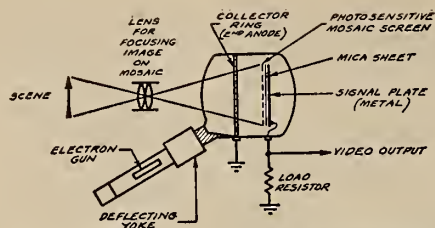

FIG. 9. Elements of the large tube are easily identified. Light images formed on the signal plate are transformed into electrical energy by the scanning beam.
Whereas the picture tube contains a fluorescent screen to convert electric current into light, the camera tube contains a photosensitive screen to convert light into an electric current. The essential parts of a large tube are shown in Fig. 9: these are the mosaic, the signal plate, the collector and the electron gun. The important accessories external to the tube are the lens, the deflecting yoke, and the load resistor.
The important things to notice here are: (1) that we get a video signal across the load resistor (Fig. 9) only when a *change of potential* is produced on the mosaic, and that this is accomplished by the scanning beam; and (2) that the resultant *video signal is proportional to the light coming from the scene being televised*, the signal being of *maximum* amplitude for *black* portions of the scene, *minimum* amplitude for *white* portions.
The collector ring (2nd anode) serves to accelerate the electrons in the scanning beam and also to collect some of the electrons emitted from the mosaic. In Fig. 9 you will notice that this element is grounded; it is, however, 500 to 1000 volts *positive* with respect to the cathode of the electron gun, because the gun is at a corresponding potential *negative* with respect to ground.